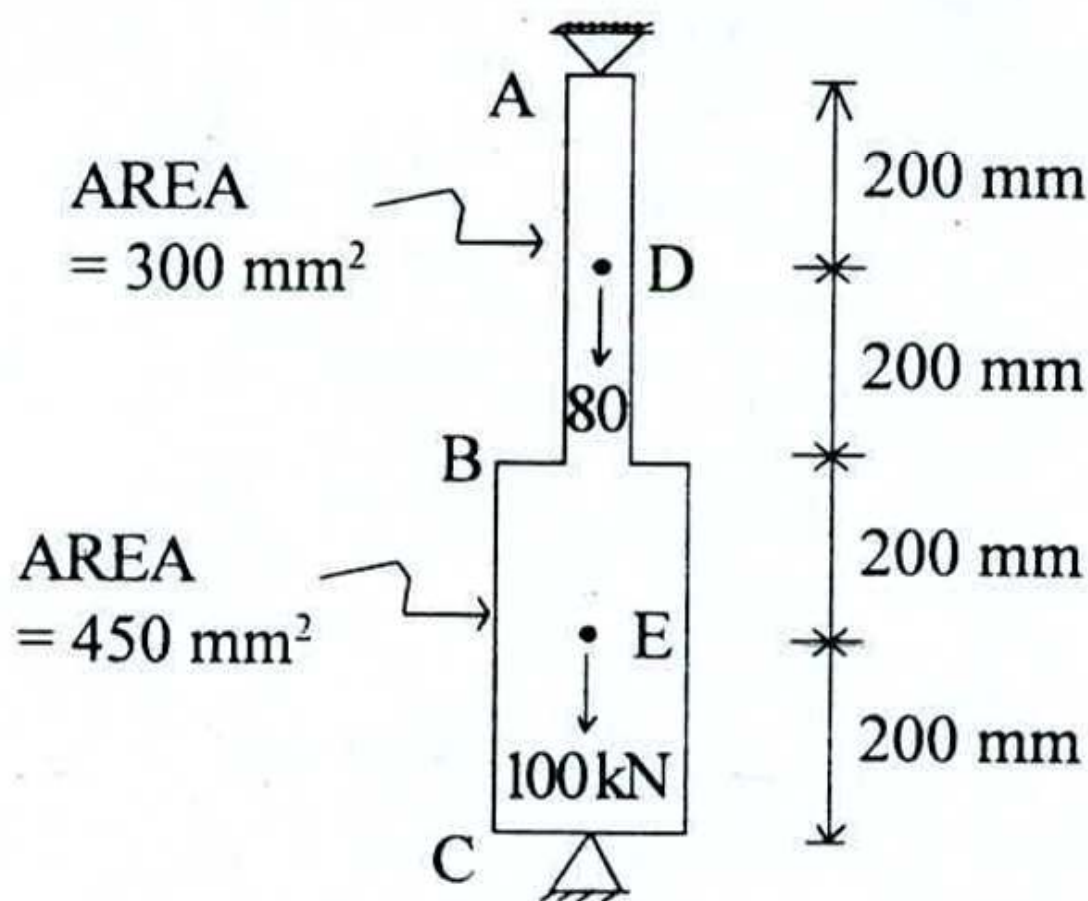

Fig. 6
- (c) A non-prismatic rod is attached between two supports as shown in Fig. 6. It is subjected to axial loads of 80 kN and 100 kN. Determine the support reactions and elongations. Take $E = 200$ GPa.